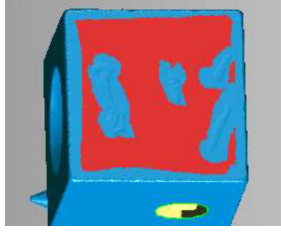

Figure 66
- Press the **CTRL** key while you deselect the areas shown in **Figure 66**.